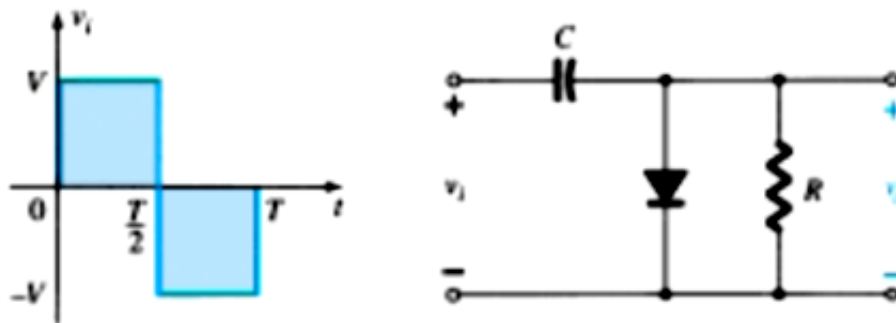

Figure 2.25: Clamper.
- The network of Figure 2.25 will clamp the input signal to the zero level (for ideal diodes).